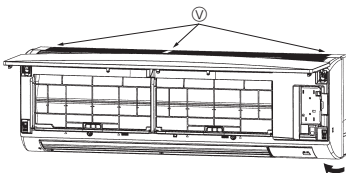
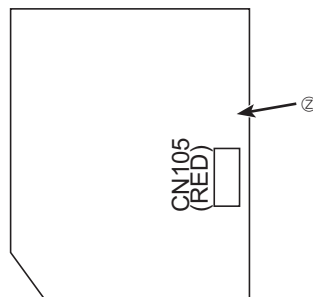

Fig. 6-5
Fig. 6-6
- ⑧ Remove the cable guide. (Fig. 6-5)
- ⑩ Remove the liquid pipe thermistor (TH2). (Fig. 6-5)
- ⑪ Tear off the tape partly of vane motor and loosen the cord. (Fig. 6-5)
- ⑫ Loosen the cord of the fan motor. (Fig. 6-5)
- ⑬ Pull out the electrical box toward you.
- ⑭ CN105 (RED) on indoor controller board. (Fig. 6-6)
- ⑮ Replace the removed parts.
- (R) Front grille
- (S) Screws
- (T) Screws and screw caps
- (U) Screw of the corner box
- (V) Hooks
- (W) Screw of electrical box cover (side)
- (X) Screw of electrical box cover (Front)
- (Y) Water cut
- (Z) Indoor controller board (I.B)